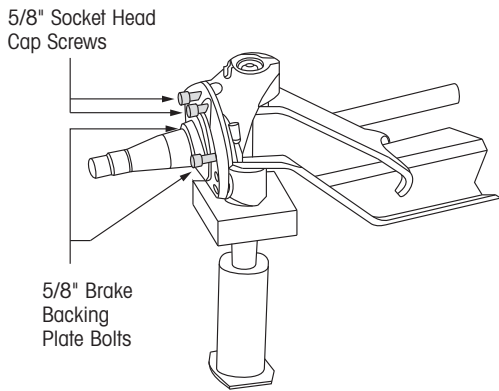

Figure 41.
5. Install the upper kingpin connection on the upper kingpin. (See Figure 41)
10. Remove the brake backing plate bolts and socket head cap screws. (See Figure 41)